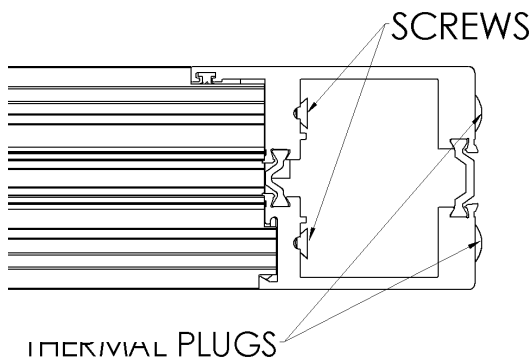

Figure C1:
3. Remove thermal plugs and loosen screws at 4 corners (Figure C1).